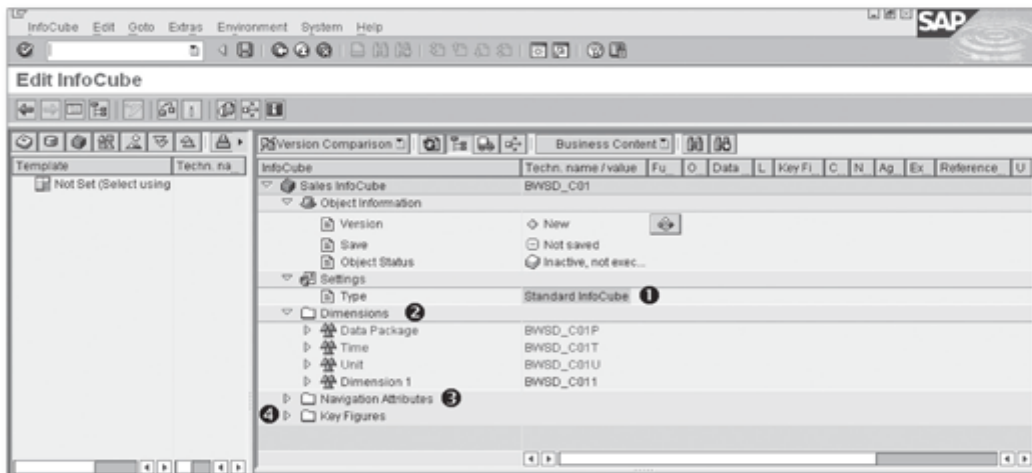

Figure 5.9 Edit InfoCube: Initial Screen
For our example scenario, select Standard InfoCube, and click on the Create icon, as shown in 8 of Figure 5.8. This takes you to the screen where you define the InfoCube (Figure 5.9).
The right side of the screen in Figure 5.9 is the area where you can maintain the InfoCube definition. There are different sections visible on this screen, as follows:
- ▶ **Settings:** This section shows the type of InfoCube (refer to ❶ of Figure 5.9).
- ▶ **Dimensions:** You can maintain the dimensions of the InfoCube in this section (❷). By default, it shows four dimensions; three of them (Data Package, Time, and Unit) are system-defined dimensions, and the fourth dimension (Dimension 1) is a placeholder for the user-defined dimension. As we've explained, it's mandatory to create at least one custom dimension; you can change the name of this dimension and attach characteristics to it.
- ▶ **Navigation Attributes:** This section lists all of the navigation attributes of the master data InfoObjects included in the InfoCube definition (❸).
- ▶ **Key Figures:** The key figures of an InfoCube are included in the key figures section (❹). (Remember, all InfoCubes must have at least one key figure.)